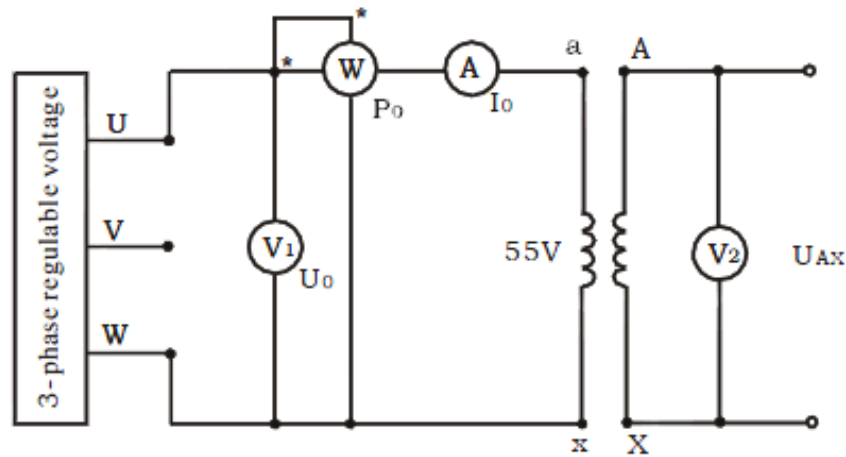

Figure 1: No load test circuit
The connection diagram is shown in Figure 1. The transformer is the single-phase transformer of module DJ11 with Low Voltage (LV) winding terminals *a* and *x* connected to the power supply, while High Voltage (HV) winding terminals *A* and *X* are open circuit. Use module D33 for voltmeters **V**₁ and **V**₂. Use module D32 for ammeter **A**, and module D34-3 for wattmeter **W**. The wattmeter **W** consists of an ammeter and a voltmeter; be sure to connect those appropriately.